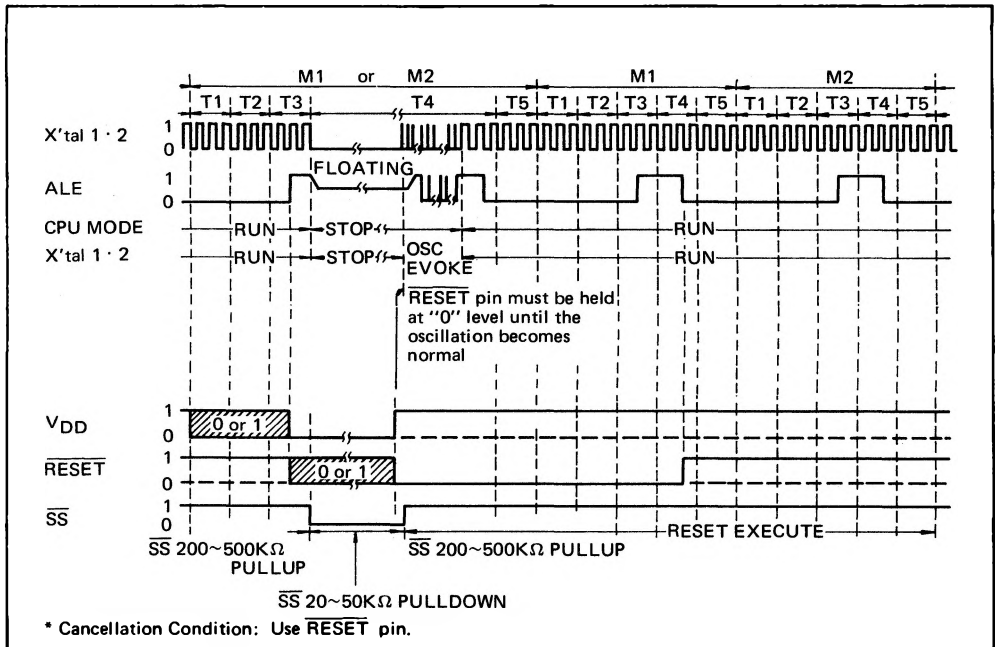

Fig. 4-5 Hardware Power-Down Mode Timing Chart
- The clock generator is activated and the CPU started up when a "1" level is applied to the  $V_{DD}$  pin while a "0" level is input to the  $\overline{\text{RESET}}$  pin. If this "0" level is kept applied to the  $\overline{\text{RESET}}$  pin until oscillation become stable, the CPU will be reset and will start executing from address 0. The timing chart is outlined in Fig. 4-5.